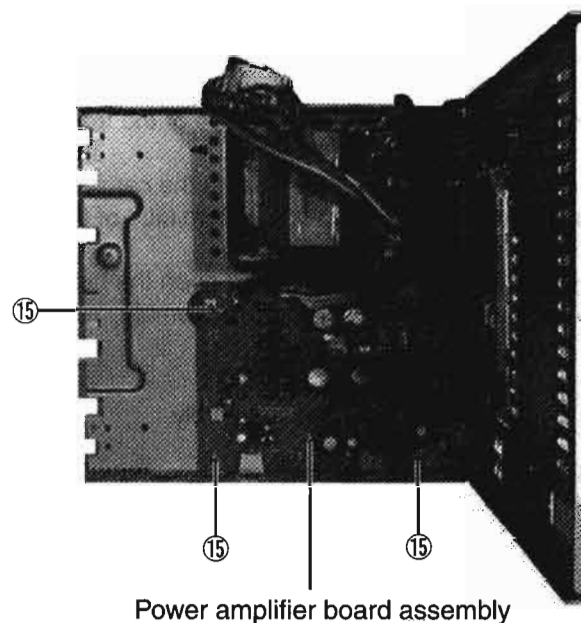

Fig. 13
8. Remove the three screws ⑮ fastening the power amplifier board assembly. (See Fig. 13)